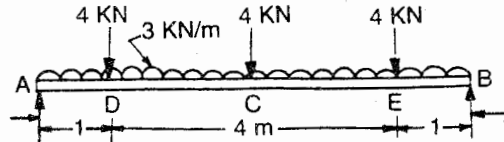

Fig. 5.62
9. Draw the shear force and bending moment diagrams for the beam shown in figure 5.62. Calculate the Value of *S. F.* & *B. M.* at C, D & E.